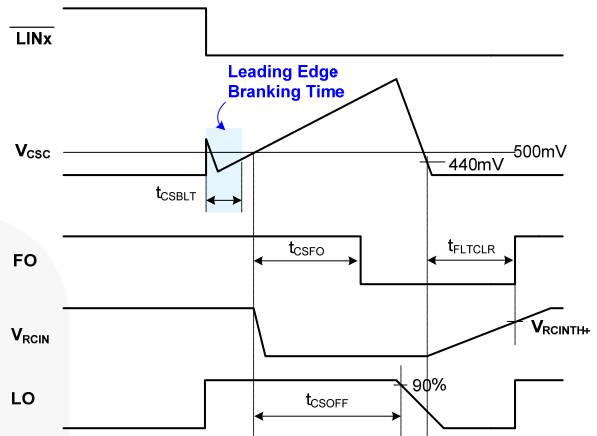

Figure 42. RCIN and Fault-Clear Waveform Definition
Figure 42 shows the waveform definitions of RCIN, \overline{FO} , and the low-side driver; which uses a soft turn-off method when an under-voltage condition of the low-side gate driver supply voltage (V_{DD}) or the current-sense pin (CS) recognizes a fault. If a fault condition occurs, the \overline{FO} Pin is internally pulled to COM and all outputs (HO1,2,3 and LO1,2,3) of the gate driver are turned off. Low-side outputs decline linearly by the internal sink current source ($I_{SOFT}=40mA$) for soft turn-off, as shown in Figure 42.